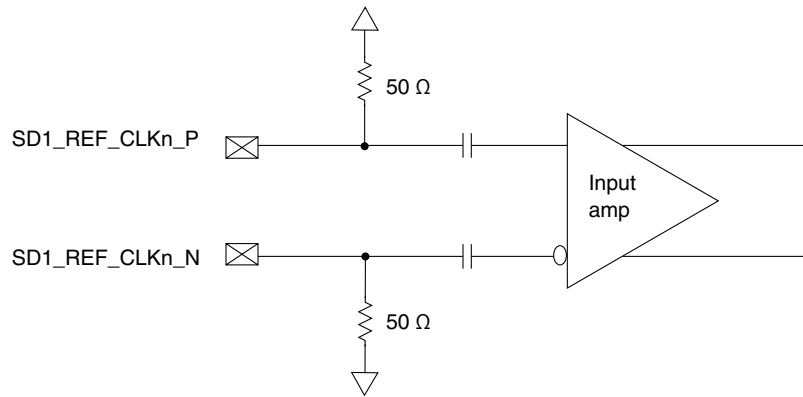

Figure 28. Receiver of SerDes reference clock
- The SDn_REF_CLK_P and SDn_REF_CLK_N are internally AC-coupled differential inputs as shown in Figure 28. Each differential clock input (SDn_REF_CLK_P or SDn_REF_CLK_N) has on-chip 50-Ω termination to SD_GND1 followed by on-chip AC-coupling.